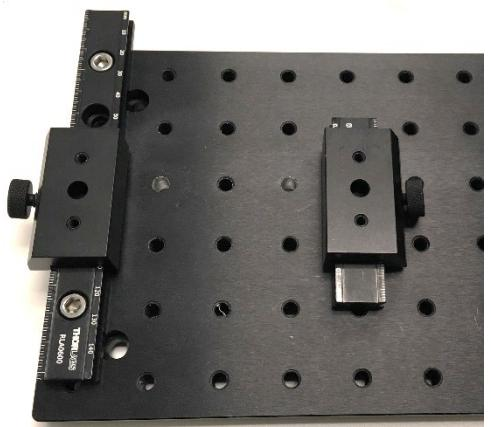

Figure 112 Rail carriers installed
- See Figure 112 for the results of this step.